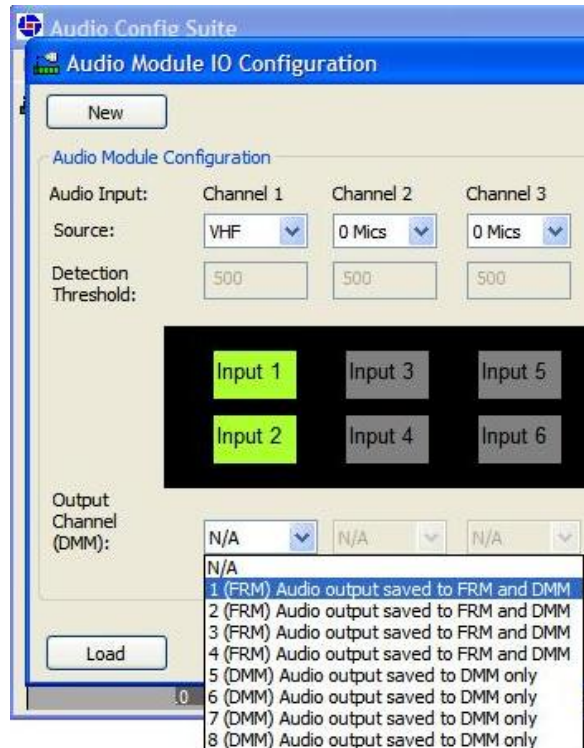

Figure 8-20 - Output channel selection
STEP 2: In the Output Channel drop-down box shown below in *Figure 8-20 - Output channel selection*, select the output channel to be used.